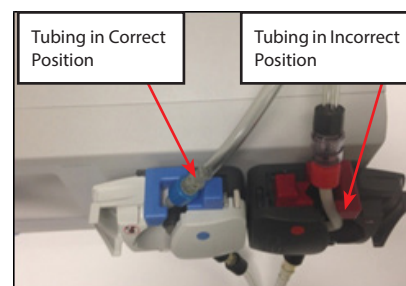

Figure 26
**IMPORTANT:** Do not close the latch of the pump head door on the tubing indicators or on the tubing (Fig. 26).